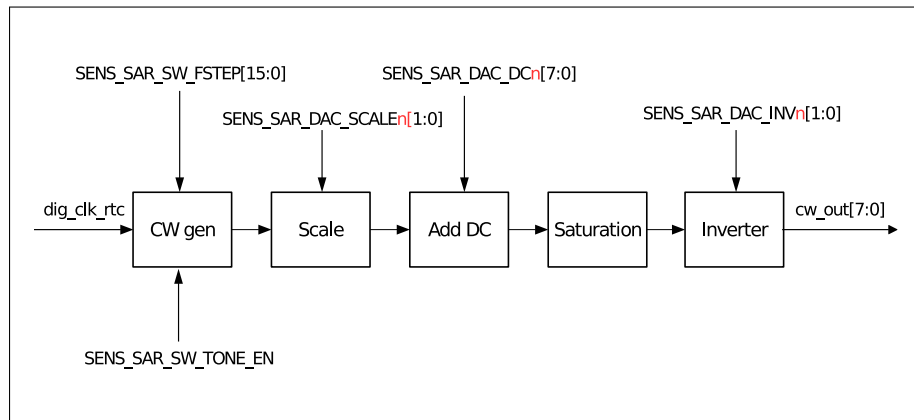

Figure 149: Cosine Waveform (CW) Generator
The cosine waveform (CW) generator can be used to generate a cosine / sine tone. A diagram showing cosine waveform generator's function is presented in Figure 149.